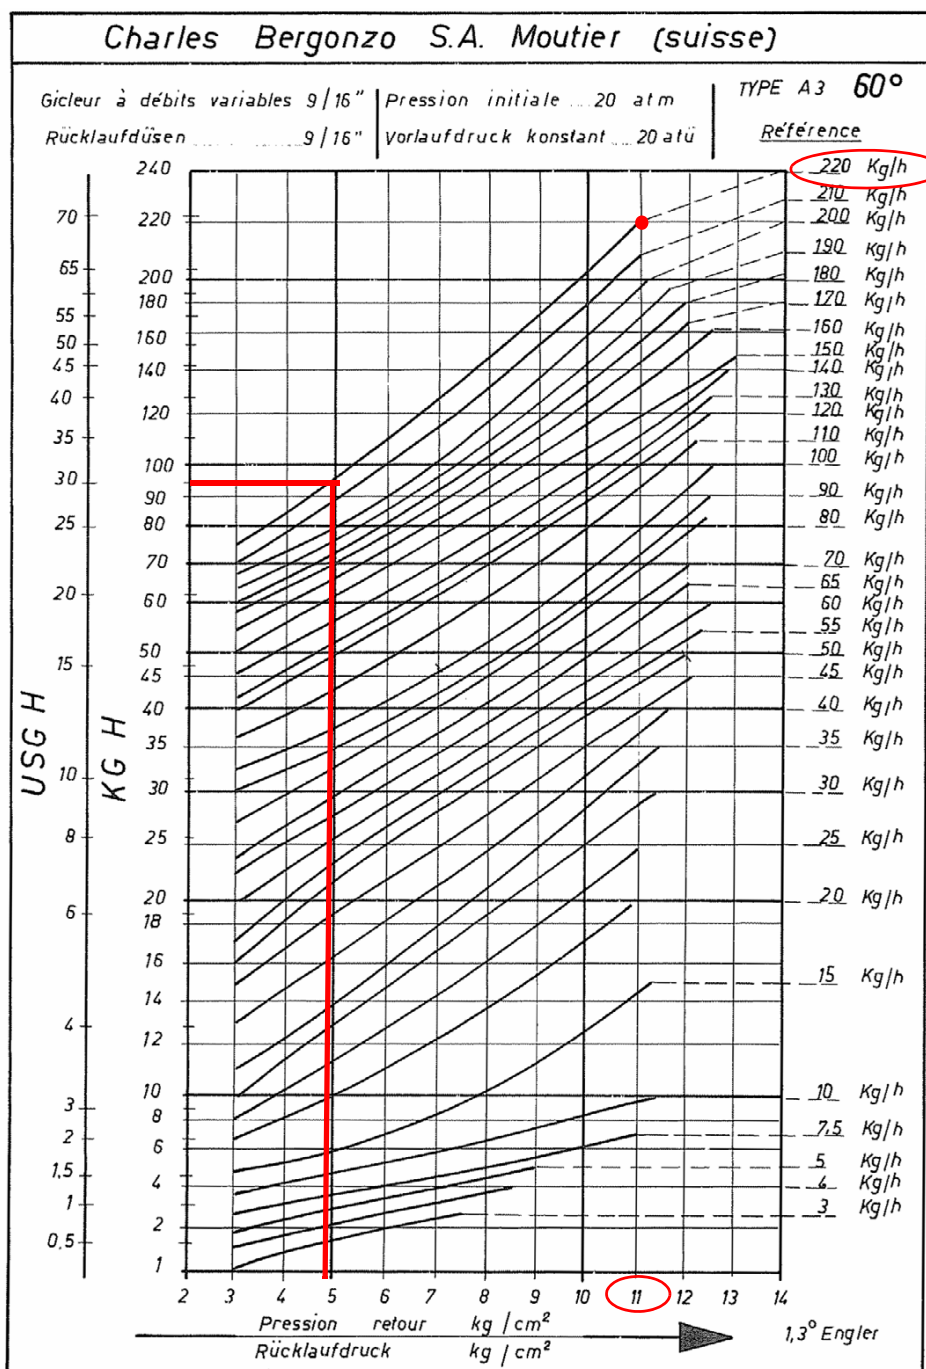

Fig. 9
The light oil flow rate can be adjusted choosing a by-pass nozzle that suits the boiler/utilisation output and setting the delivery and return pressure values according to the ones quoted on the chart below and the diagram on Fig. 9-Fig. 32 (as far as reading the pressure values, see next paragraphs).
**Example (Bergonzo):** if a 220kg/h flow rate BERGONZO nozzle is provided, set the return pressure at 11bar, supply at 20bar on the delivery to get a 220kg/h flow rate. If the return pressure needed is 5bar, instead, act on the **V** adjusting screw on the pressure governor (see chapter on page 28). The flow rate will then be about 95kg/h (see the example showed on the Bergonzo diagram-Fig. 9).